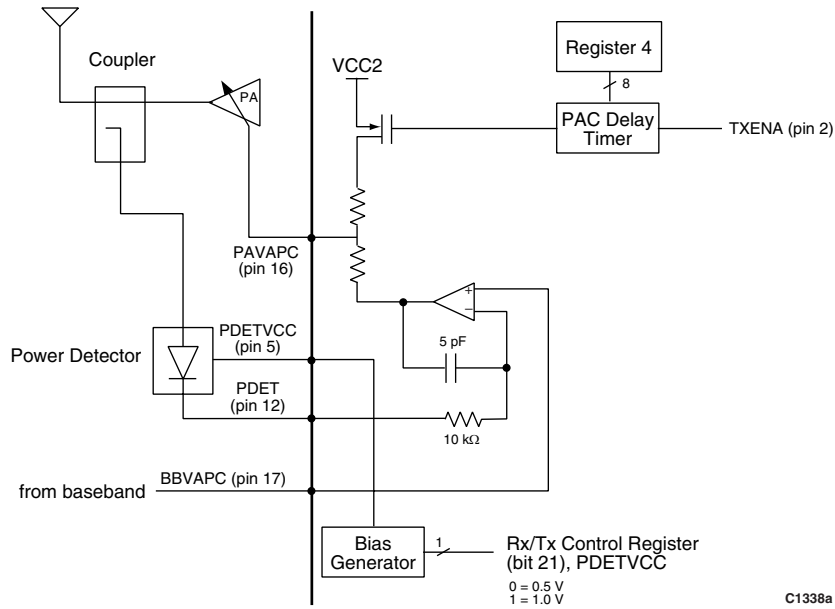

Figure 8. PA Controller Block Diagram
The device contains an error amplifier/integrator to provide transmit burst control for an external power amplifier (PA). As shown in Figure 8, when the device is connected to a PA, an RF detector, and a coupler, a loop is formed that controls the transmit power in a multi-band wireless application. The error amplifier amplifies and integrates the voltage difference between the RF detector output (PDET) and the power control input (BBVAPC). The output of the integrator is fed to an internal gain shaper that drives the gain control input (PAVAPC) of the external RF PA. The device provides a bandgap voltage (PDETVCC) which can be used as the supply voltage for the external peak detector and can source up to 200 μA.